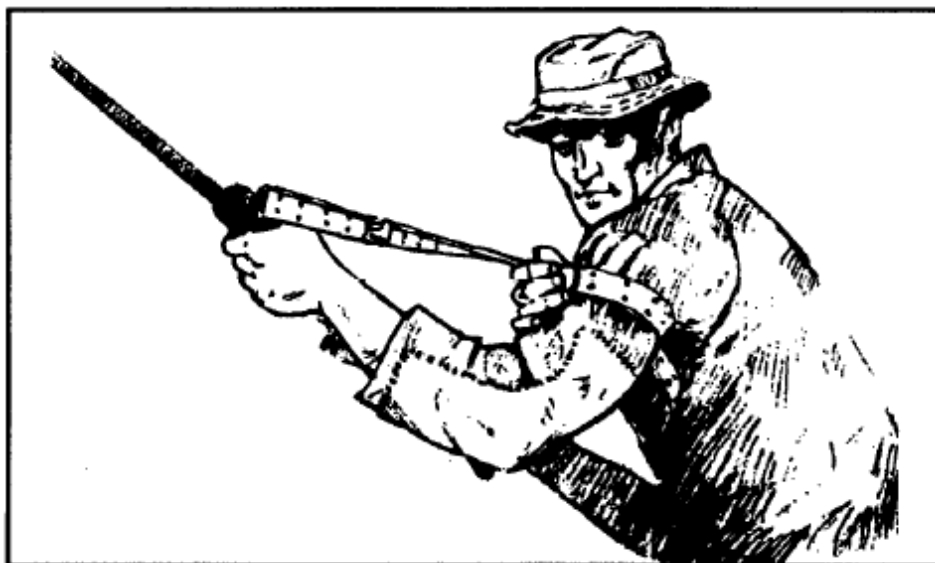

Figure 2-11. Placing the sling around the nonfiring arm.
(4) After adjusting the length, the sniper places the weapon on his firing hip and supports the weapon with his firing arm. The sniper turns the sling away from him 90 degrees and inserts his nonfiring arm.
(5) The sniper slides the loop in the large section of the sling up the nonfiring arm until it is just below the armpit (Figure 2-11). He then slides both leather keepers down the sling until they bind the loop snugly round the nonfiring arm.